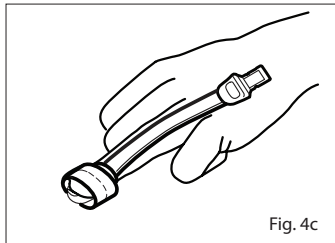

Fig. 4c
4. Refer to Fig. 4c. Check the sensor to verify correct positioning and reposition if necessary.